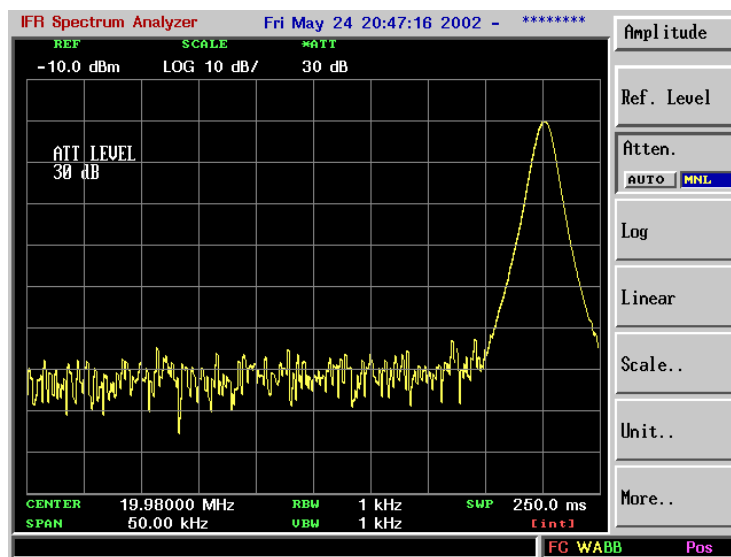

Figure 2-20. Setting the input attenuator
5. Set the reference level to -10 dBm by pressing **AMPL**, *Ref Level, -10 dBm*. See Figure 2-20. Note that if the signal is much higher than shown, adjust the input attenuator. In this example the input attenuation was set to 30dB by pressing *Atten. [MNL], 30dB*.